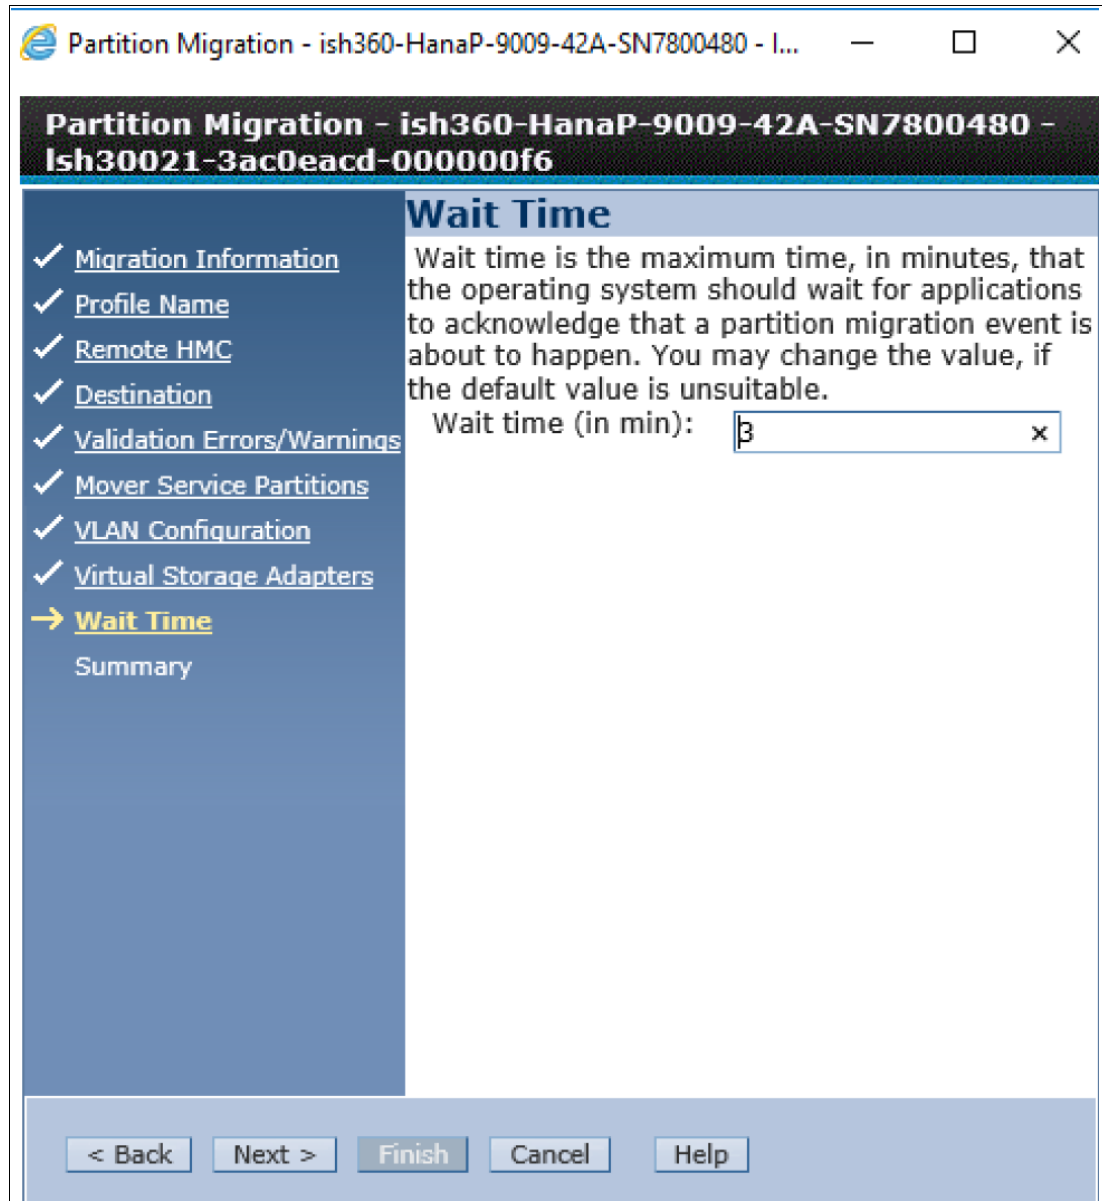

Figure 3-23 Wait Time window: Partition migration timer
8. In the Wait Time step, a timeout value is set and prefilled by the HMC, as shown in Figure 3-23. The Wait Time value is the time to wait for applications to acknowledge that a migration is happening. This value might have to be increased depending on the configuration of the migrated partition.